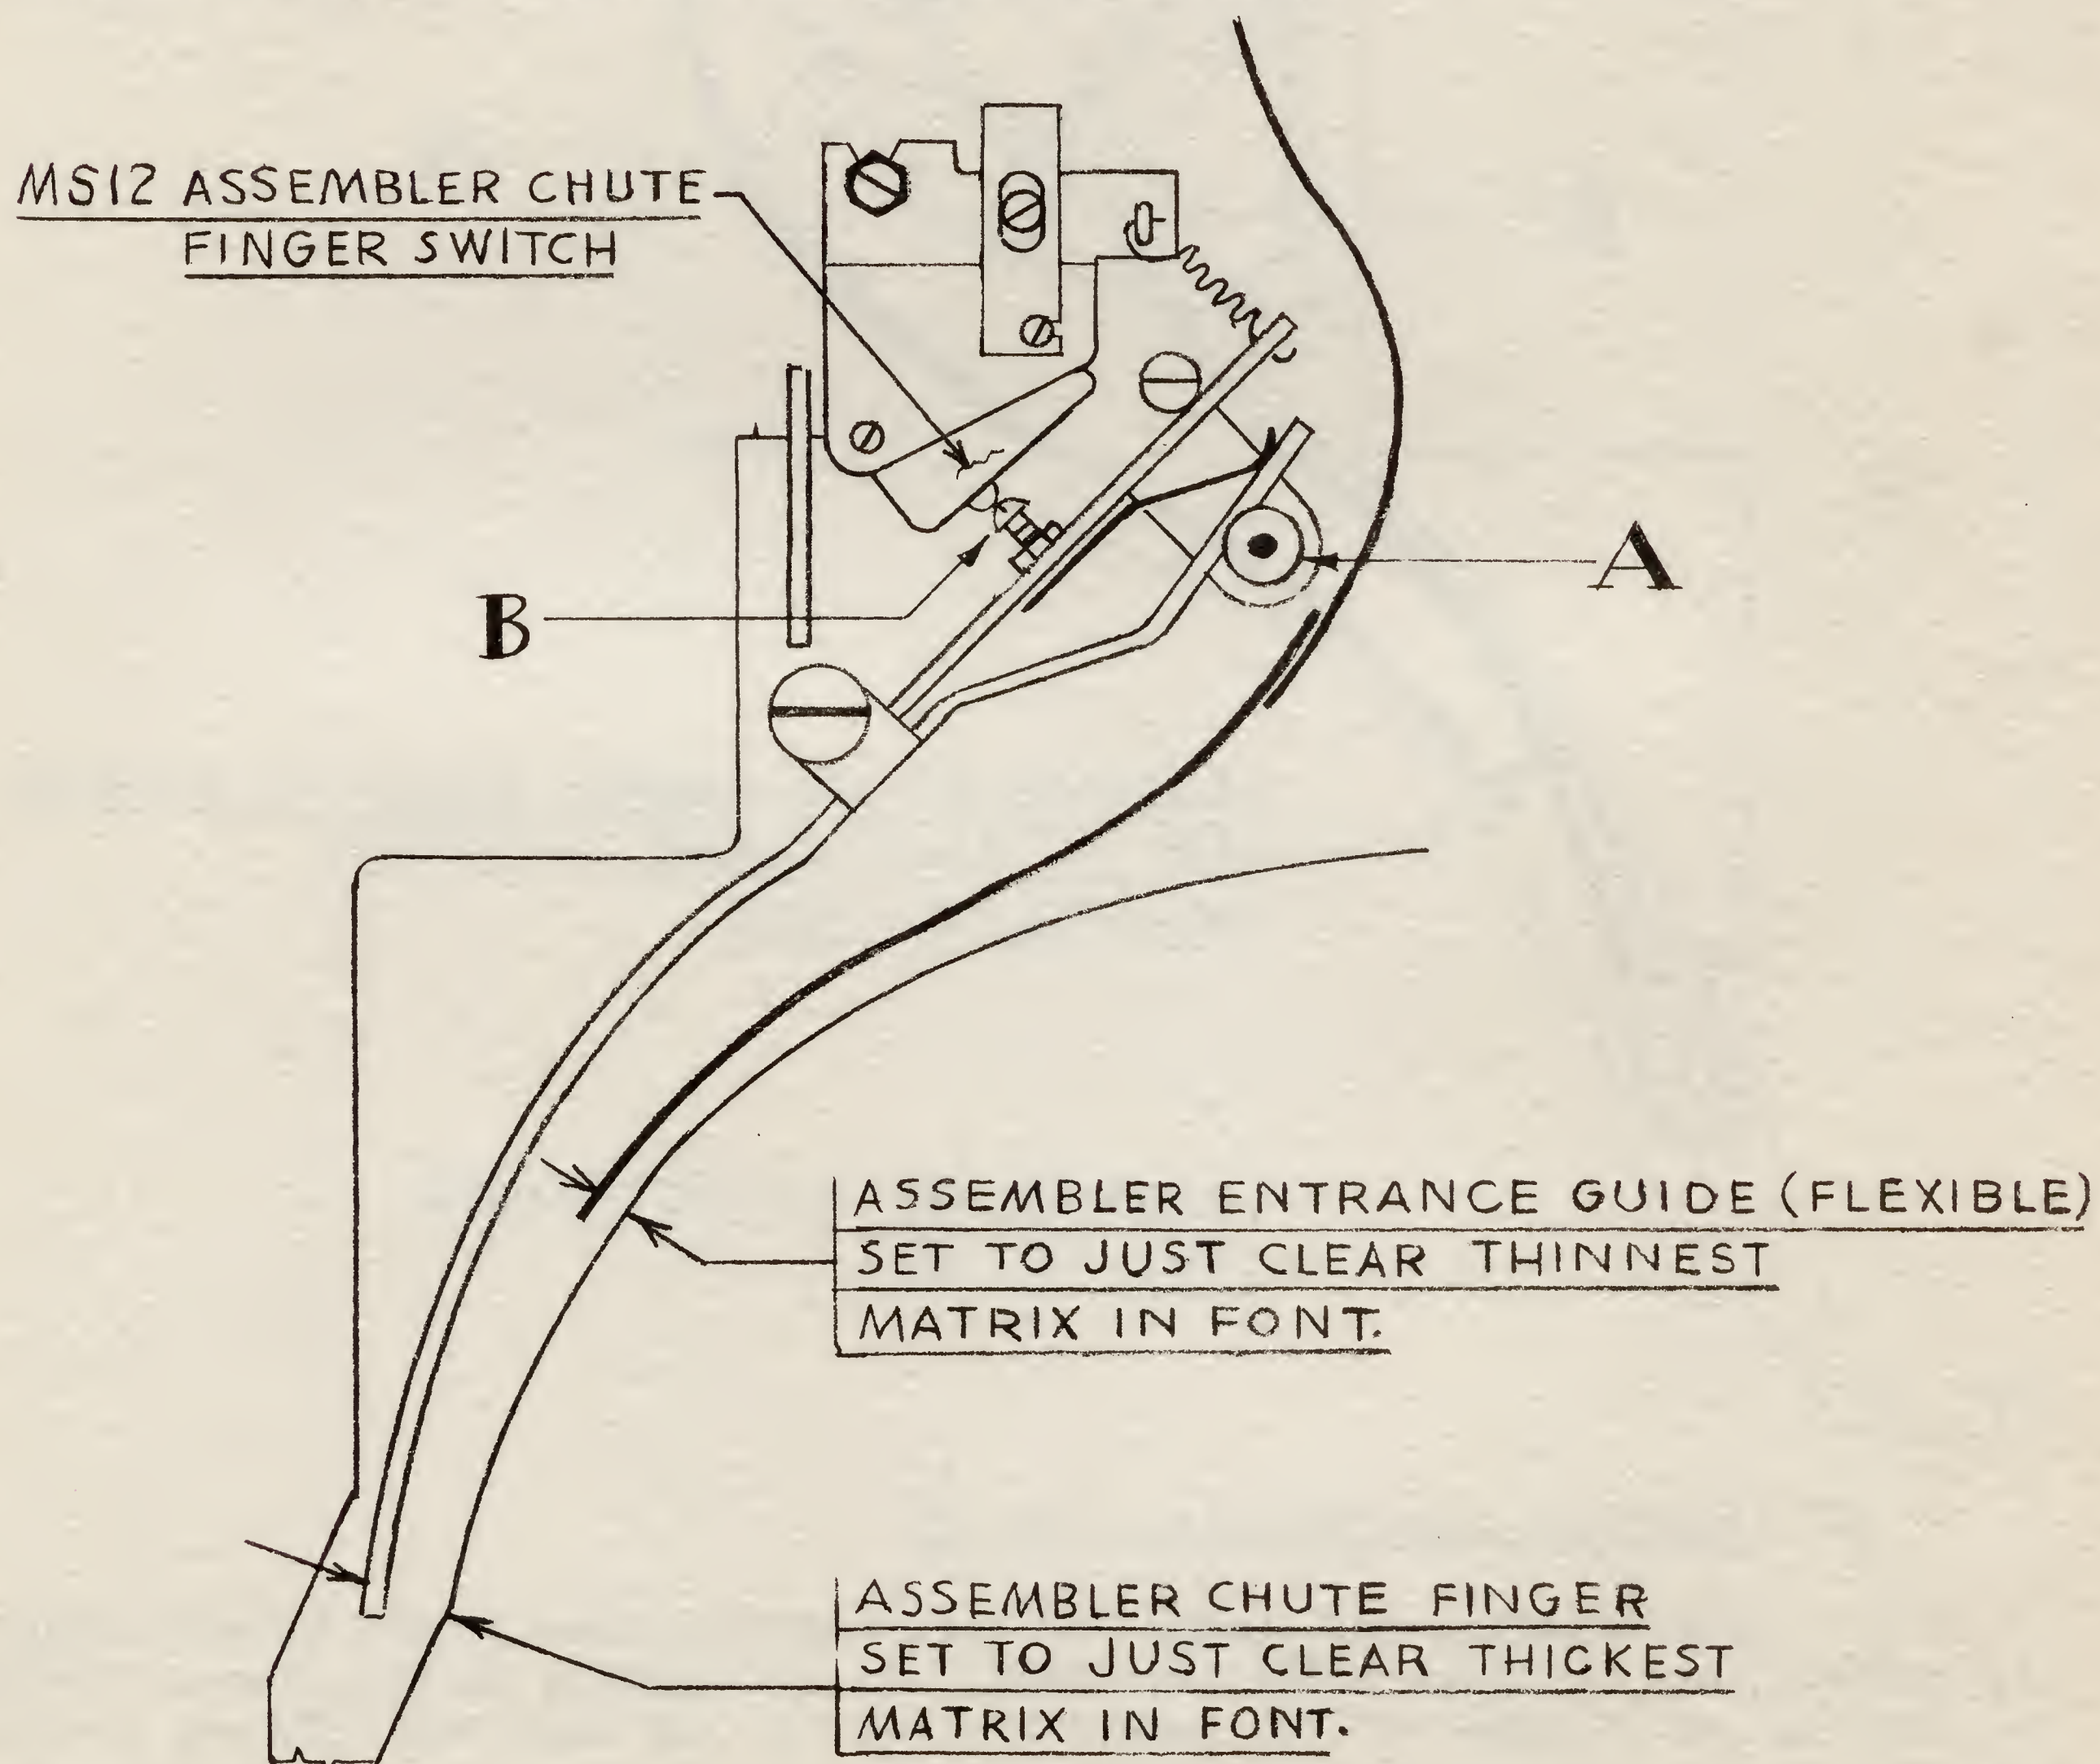

FIG. 6
\* (F) Assembler Chute Finger (Fig. 6)
3. The MS 12 Assembler Chute Finger Switch should be adjusted by screw "B", so that when the assembler chute finger is set correctly as outlined in (2), MS 12 switch should just be actuated.